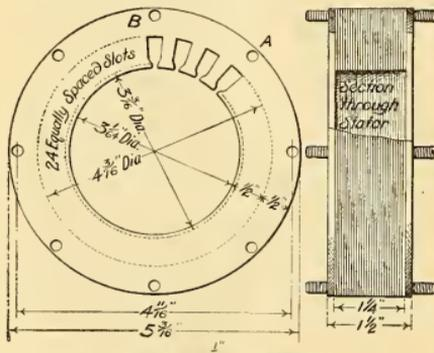

Fig. 1. Stator of Motor
The stator, Fig. 1, is constructed of a number of laminae securely clamped together and having slots for the winding around the inner periphery. The material for the stator laminae is No. 29 sheet steel. Cut enough 5 3/4 inch disks of sheet steel to make a stack 1 1/4 inches thick when tightly compressed. Then get two disks of 1/8 inch iron, having the same diameter and clamp the disks for the laminae between them. Inscribe a 4 1/16 inch circle on the top disk and divide its circumference into eight equal parts. This is to locate the eight holes (A) and (B), etc., which are drilled with a 1/16 inch drill. The holes (B) should be counter bored on both the top and bottom plates. Procure eight 1/8 inch rods each four inches long and thread each end. Put these rods through the holes in the disks and turn a nut on each end allowing the rod to project equal distances on each side of the core.
Using the same centre that was used in locating the holes (A) and (B), Fig. 1, inscribe two circles on the top disk, one 3 3/16 inches in diameter, and the other 3 6/16 inches in diameter. Divide the larger circle into 24 equally spaced parts and at these points draw radii to the centre. Around the outer circle drill 24 3/16 inch holes and at the points located on the inner circle drill 24 1/16 inch holes. There will then be 24 pairs of holes
The stator iron is clamped to the lathe faceplate by means of the rods through the holes (A), (B), etc., Fig. 1. The rods are inserted through the slots in the faceplate and a washer and a nut are turned on each rod. The outside is turned down to a diameter of  $5\frac{3}{16}$  inches and the center bored out to  $3\frac{1}{64}$  inches in diameter. The slots should be filled with pieces of wood before the centre is bored out, to prevent the tool from tearing up the teeth. The iron over the teeth is cut away by boring the heavy end plates to a diameter of  $4\frac{3}{16}$  inches. Next remove the stator from the lathe and cut off the rods (B) on both sides of the core and rivet them down closely. They should come flush with the surface, since the holes were counter bored. The slots are opened by a  $\frac{3}{32}$  inch saw cut made with two or three hack saw blades mounted side by side in the frame. The stator will then appear as in Fig. 1.